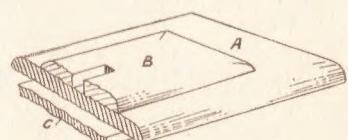

Fig. 3—The 3-piece lid
The lid of the box consists of three plain pieces of wood glued together as (A), (B) and (C) in the diagram Fig. 3. The main large section (A), measures $5\frac{1}{2}$ ins. by $3\frac{1}{2}$ ins. by $\frac{1}{8}$ in. thick, and to the top of this is glued a piece shown as (B) on the pattern sheet. This, and the main section of the lid has its edges shaped as shown in the cross hatched section on the sheet.